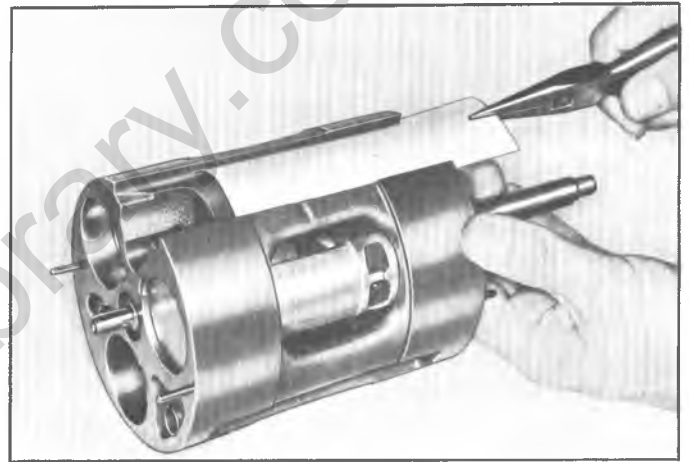

Fig. 17--Removing Suction Crossover Cover
6. Remove the suction crossover cover (fig. 17).